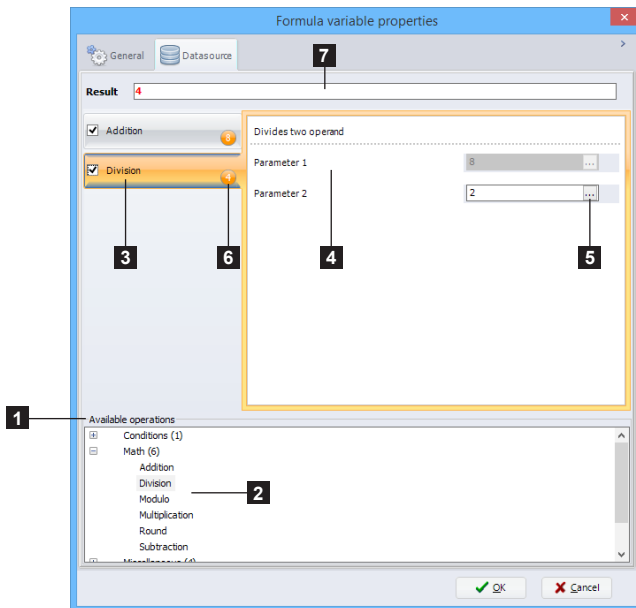

Figure 60 Formula
6. Overview of database with a filter builder wizard, in order to do a custom records selection and set the printing quantities ► Figure 60